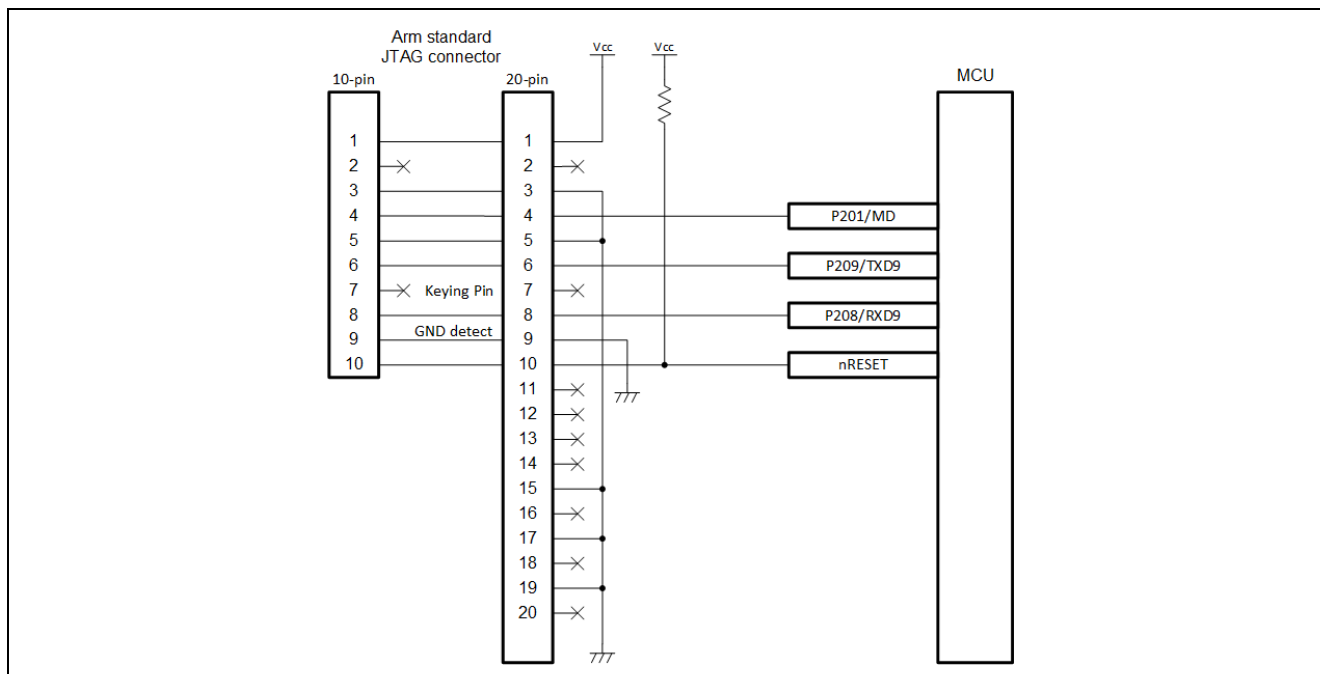

Figure 6. Serial Programming Interface using SCI Connections over Debug Connector
2. To access the MCU boot mode via SCI boot pin over the JTAG connector, connect the P201/MD and the SCI TXD, RXD pin to the JTAG connector per the guideline shown in Figure 6.